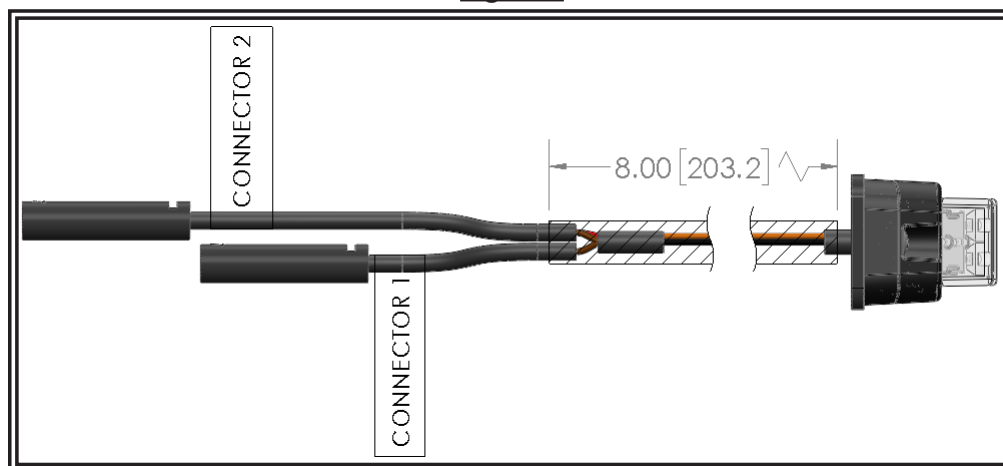

Figure 4
9. Apply heat to the larger heat shrink over the entire cable as shown in FIGURE 4.